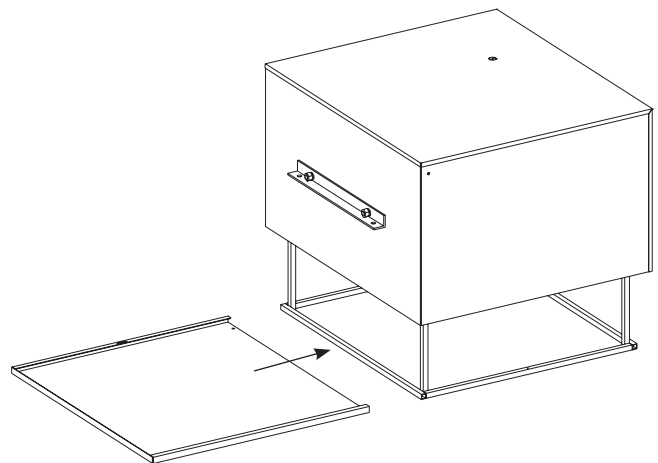

Figure 3
5. Electrically wire unit. Install ceiling tile plate. See Figure 3.